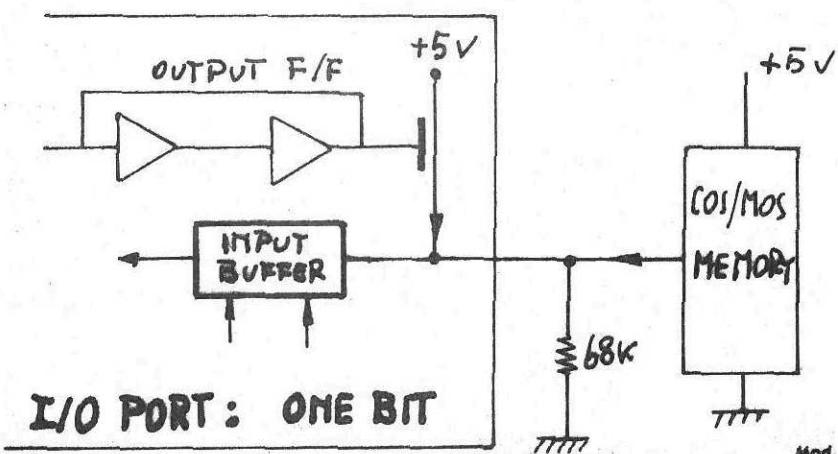

Fig.43B - TYPICAL I/O BIT INTERCONNECTION
- 6 - Every I/O bit of the M38 microcomputer is connected to the COS-MOS device by the circuit shown in Fig.43B.